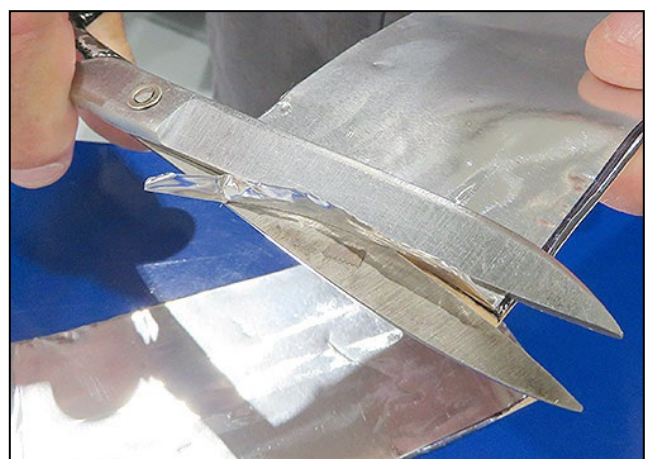

Figure 13
- o Figure 13 shows foil being trimmed.